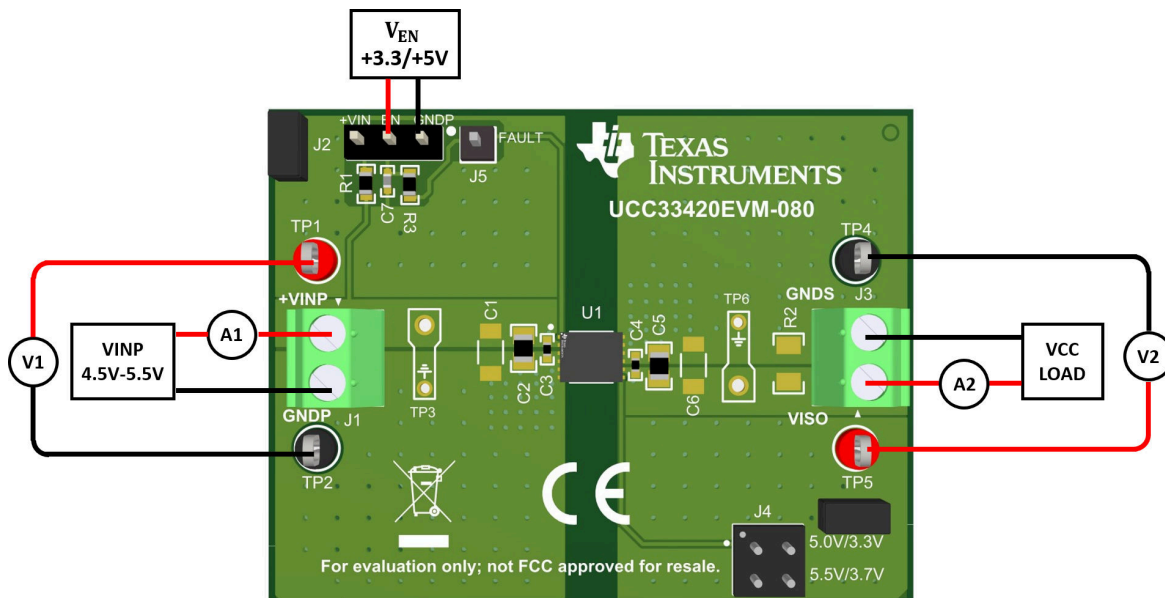

Figure 2-1. Typical Efficiency Measurement Setup
3. Connect a variable load between J3:1 (VCC) and J3:2 (GNDS). If using an electronic load, then set to constant current (CC), 300mA. Leave the load disabled until the EVM is powered.
4. Some electronic loads are not able to regulate or stabilize CC when setting in the low mA range. Monitor the input current and load currents by inserting ammeters as shown in Figure 2-1. A current probe can be used with the oscilloscope to verify the stability of the DC current being regulated by an electronic load.